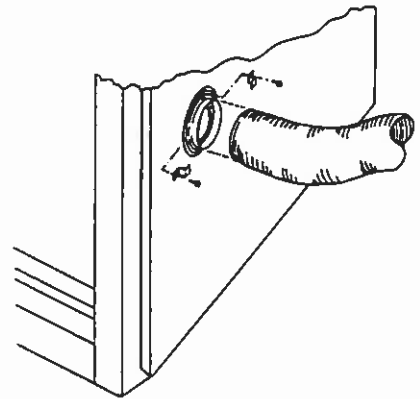

Figure 41
Step 3. With the two remaining sheet metal screws and the two clamp brackets supplied, secure the duct to the air gale assembly as shown in Figure 41.